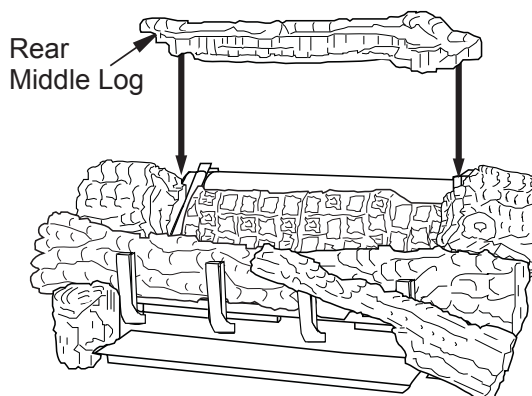

Figure 34 - Installing Rear Middle Log
7. The rear middle log should fit between the ramp log and the rear burner. The left and right middle logs have recessed areas for the rear middle log to sit into (See **Figure 34**). Be careful not to push the rear burner out of position while installing this log.